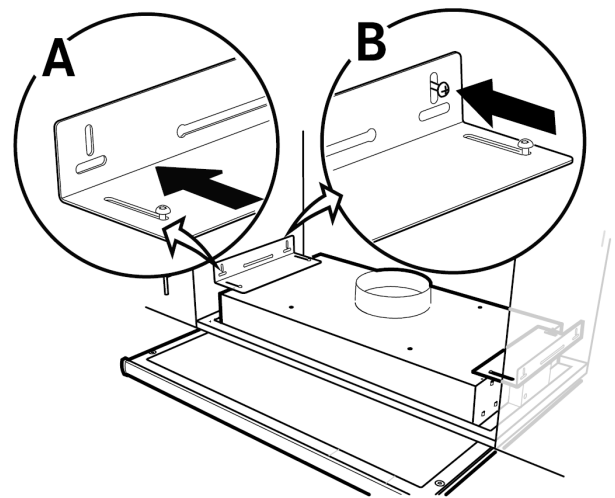

Fig. 16 Installation using brackets
2. Attach the brackets as far into the cooker hood as possible. Insert the cooker hood up into the hole in the base of the cupboard. Pull out (figure 16, pos. A) and use screws to fasten the brackets to the sides of the cupboard (figure 16, pos. B). Tighten the brackets in the cooker hood.